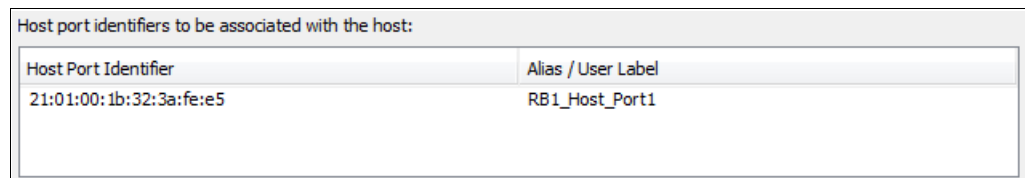

Figure 2-64 Added the host port
5. When you click **Add**, the host port identifier is added to the alias, as shown in Figure 2-64.